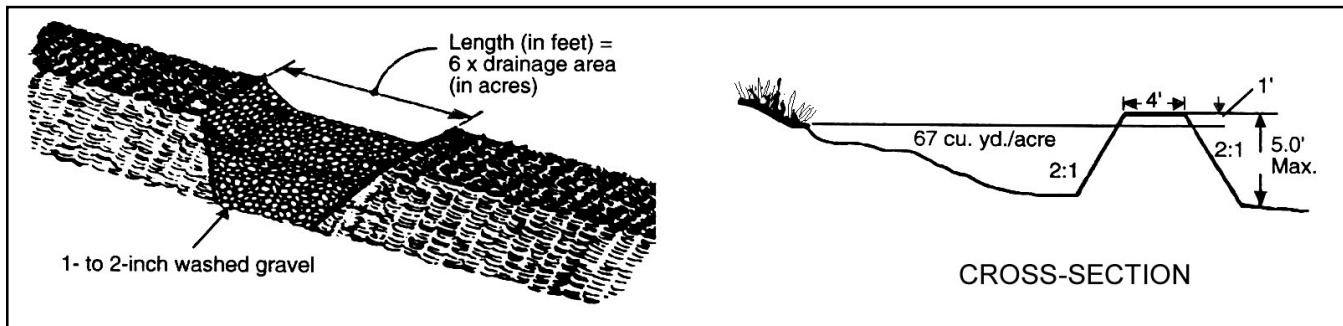

Figure 4: Temporary Sediment Trap
- See Figures 4 and 5 for the gravel outlet swale dimensions.